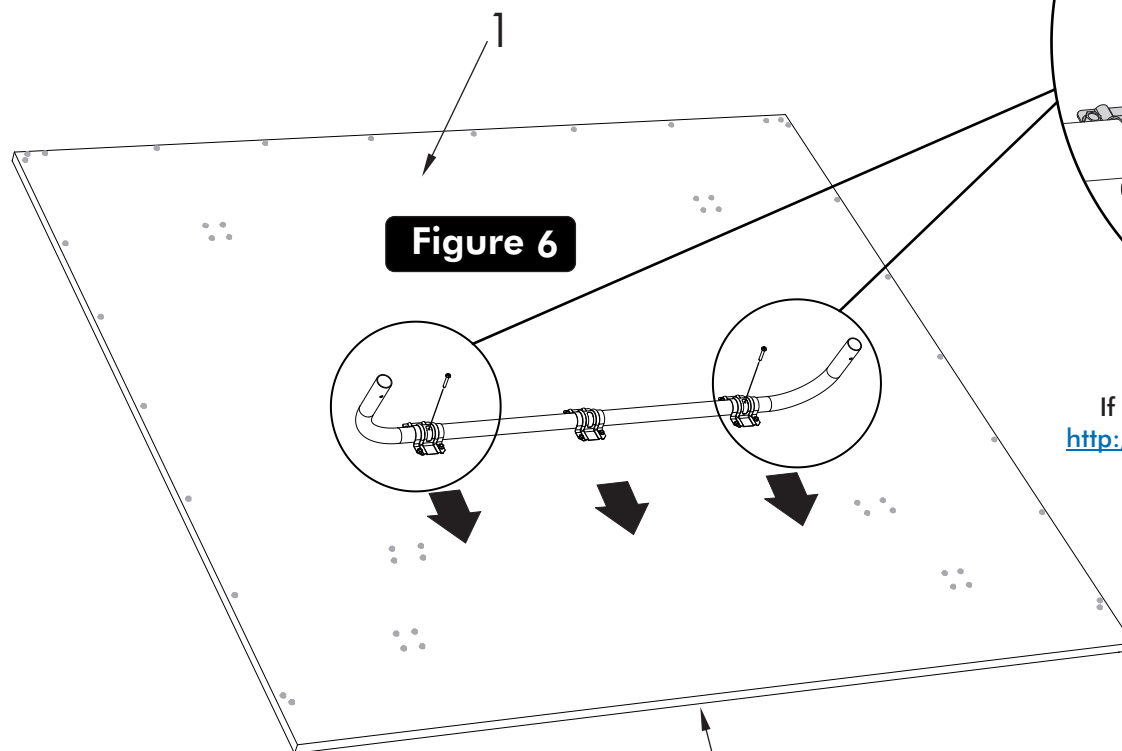

Figure 6
8. Rotate U-support (#21) that is on bottom of Table Top until you see the screw holes in the slots of U-clips (#22). If necessary Slide U-support (#21) side to side and back and forth to see holes. See **Figure 6** & **Detail B**.
9. Insert Screw (#35) through slot in U-clip (#22) and into U-support (#21). See **Figure 6** & **Detail B**. Thread screw all the way into U-support until it touches the back of the tube. There should be about 3/8" of screw (#35) left sticking out. Repeat for second Screw (#35) and U Clip (#22).